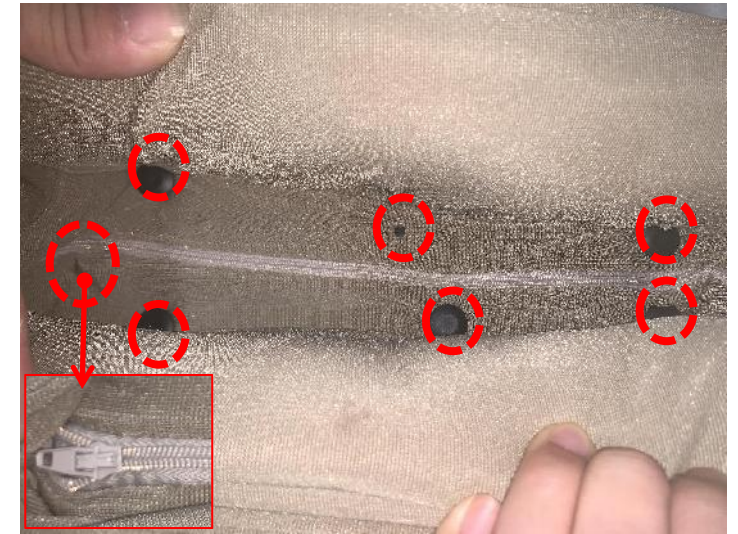

Figure 3
3. Forcibly open the buckle, take out the air bag holster, and open the zipper to take out the air bag (Figure 3)